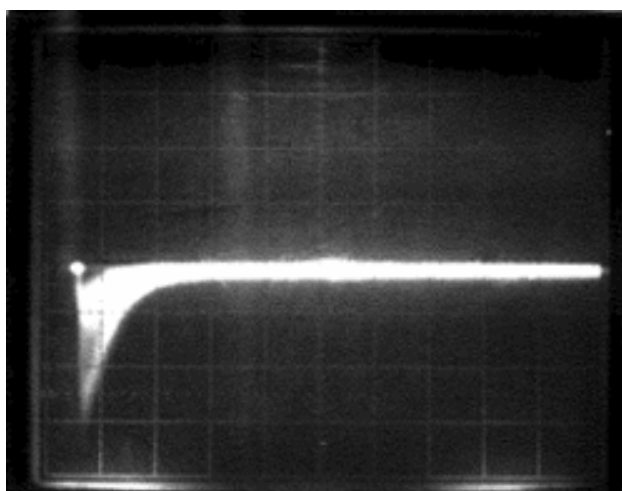

Figure 12: Scope picture of trace: PMT Output,  $^{137}\text{Cs}$  Source Scope: 50 mV/div; 0.5  $\mu\text{sec}/\text{div}$ .
1. Before turning on the SRS High Voltage Power Supply, you need to make sure that the polarity is set to positive, and that the High Voltage line is connected to the PMT (this should already be the case). The polarity may be set using a flat-head screw-driver on the back of the unit. The groove aligns with the chosen setting, and should already point to positive. There should be a red BNC cable running from the back of the power supply to the **POS HV** input at the PMT base. Before powering on the power supply, make sure that the black High Voltage switch is set to **OFF/RESET**. Now, power on the power supply. You first need to set the power supply to provide 780 V. The word **SET** should be backlit by a green LED, allowing you to adjust the power supply potential. Above it, the smallest LED screen should read 780 (V). If it does not, type 780 and click **ENTER**. Once set, this will be our starting point. If you are sure that everything is connected properly, turn on the High Voltage using the **High Voltage** switch. The word **ON** should now be back-lit with a red LED. To have stable operation, it is better to leave the high-voltage power supply running during the period that you sign up for the experiment. Remember that a High Voltage supply such as this one may need up to 15 min of warm-up time before the potential stabilizes, therefore it is a good idea to let it run for some time before taking data. If there is a problem with this power supply, alert the staff. There is an older HV power supply available (Fluke 415B) if necessary.
2. Place the  $^{137}\text{Cs}$  source into the circular lead pig (see picture Figure 2 above) 20 to 25 cm away from the detector with lead collimator in front of the source. Make sure that the collimator assembly is in place as shown in Figure 3 & Figure 4 above. Look at the output of the PMT on a fast scope (Tektronix type), then connect it to Channel 1 of the ADS oscilloscope and look at it with WaveForms. To match impedance, use a 50-ohm terminator on a BNC "tee" going into the Tektronix scope (but **not** the ADS scope input). Look for a faint signal about 0.5  $\mu\text{sec}$  wide and -50mV high (see Figure 12). You may have to play with the triggering on the Tektronix to get this, and possibly turn up the trace intensity and shield the screen from glare. In WaveForms, you'll have to set the sampling rate appropriately, and may have to play with the triggering. Each trace of this signal is the electron pulse coming from the PMT that represents a gamma ray striking the detector. The signal is blurred